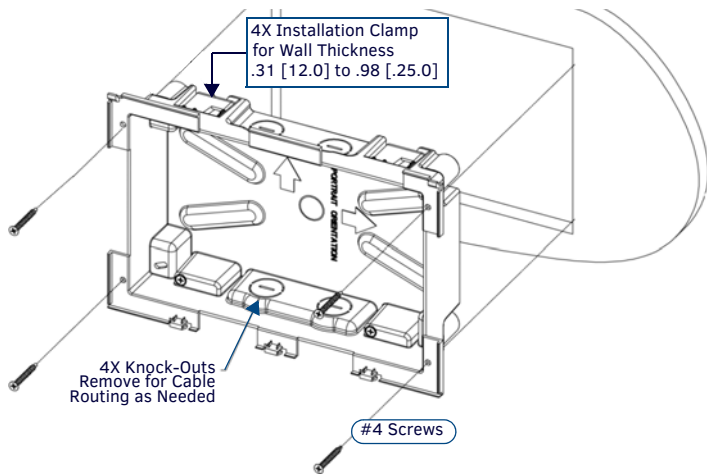

FIG. 4 MXD-1001 BACKBOX INSTALLATION (LANDSCAPE)
3. Thread the incoming cables through the surface opening (FIG. 4). Leave enough slack in the wiring to accommodate any re-positioning of the panel.
8. For additional strength, #4 mounting screws (not included) may be secured via mounting circular holes located at the left and right sides of the MXD-1001 (FIG. 4). In order to prevent damage to the touch panel, make sure that these are flush with the Backbox.